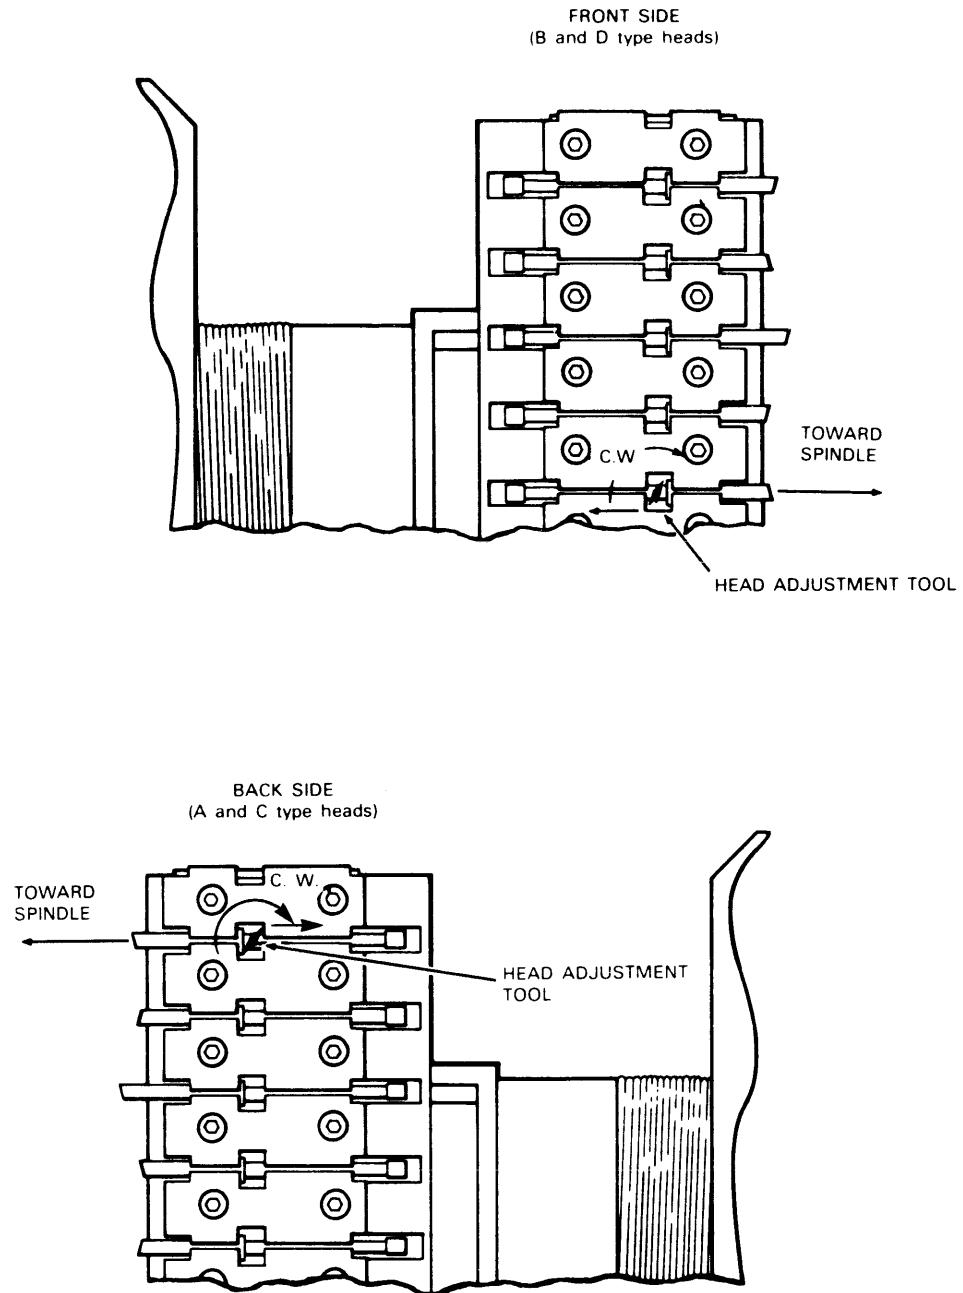

FIGURE 5-11. HEAD-ARM MOUNTING CLIPS AND ALIGNMENT SLOTS
6. Tighten one of the clips (bottom clip for a B- or D-type head; top clip for an A- or C-type head) to restrict its movement without restricting the movement of the head-arm assembly (Figure 5-11).
3. Remove the two side clamps (one above and one below the head arm) which hold the assembly in the Tee-block slot (Figure 5-11).